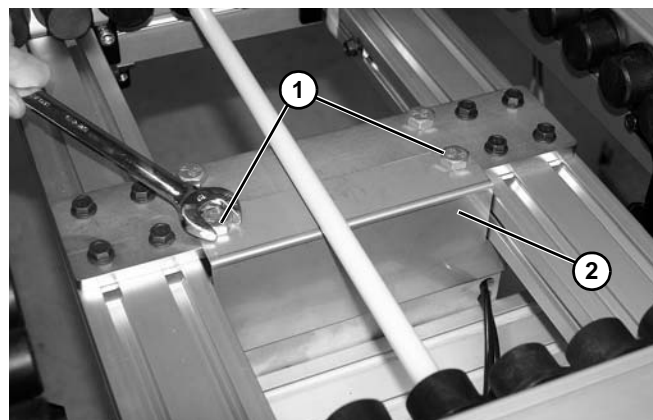

Figure 38
1. Remove two screws (**Figure 38, item 1**) and smaller cylinder guard (**Figure 38, item 2**) from around cylinder assembly.